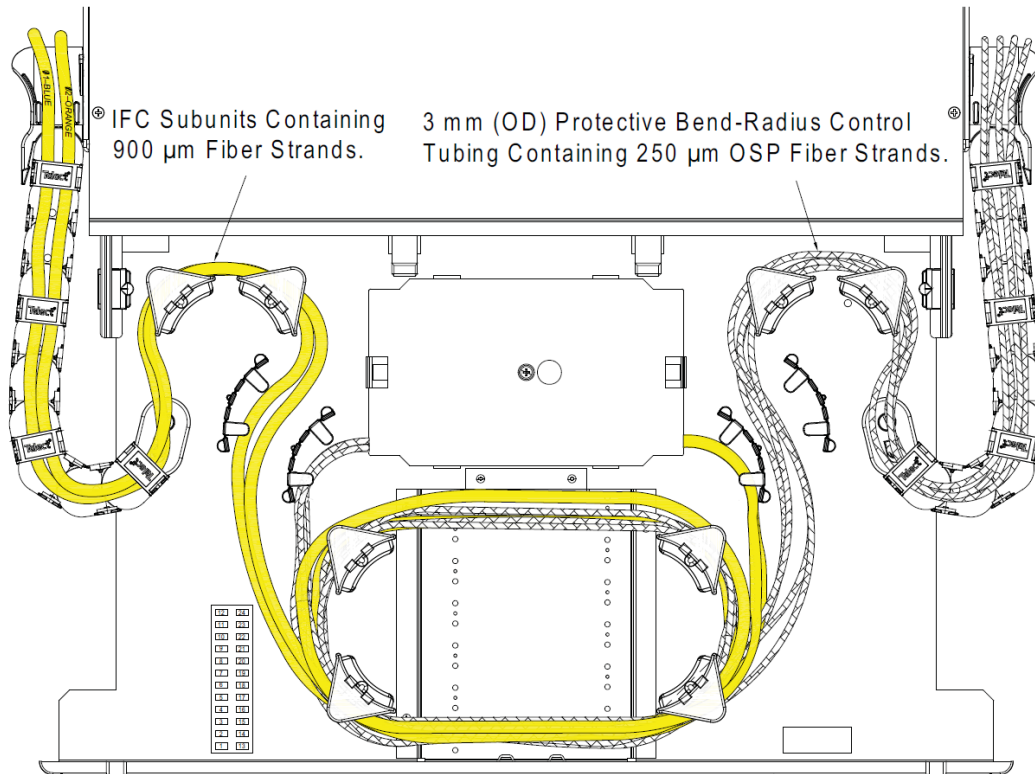

Figure 30 - Example of a 24-Circuit Interconnect Between OSP Fiber Entering on the Right and IFC Fiber Entering on the Left
8. Fit lead-in tubing into the linkage and around the four storage arcs adjacent to the cassette assembly: (Start with the tubing that is least likely to require future access — in this case, the OSP loose tubing.) Refer to Figure 30.